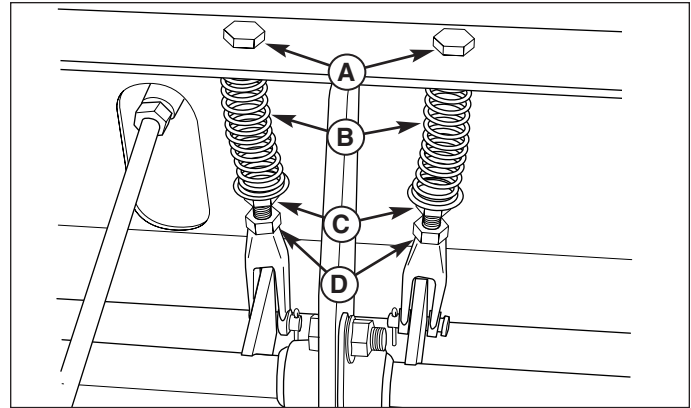

Figure 28. Neutral Spring Return Adjustment
3. Move the ground speed control levers towards the neutral position. If the levers do not align with the notches in the neutral lock plate, it is necessary to adjust the reverse return bolts (A, Figure 28).